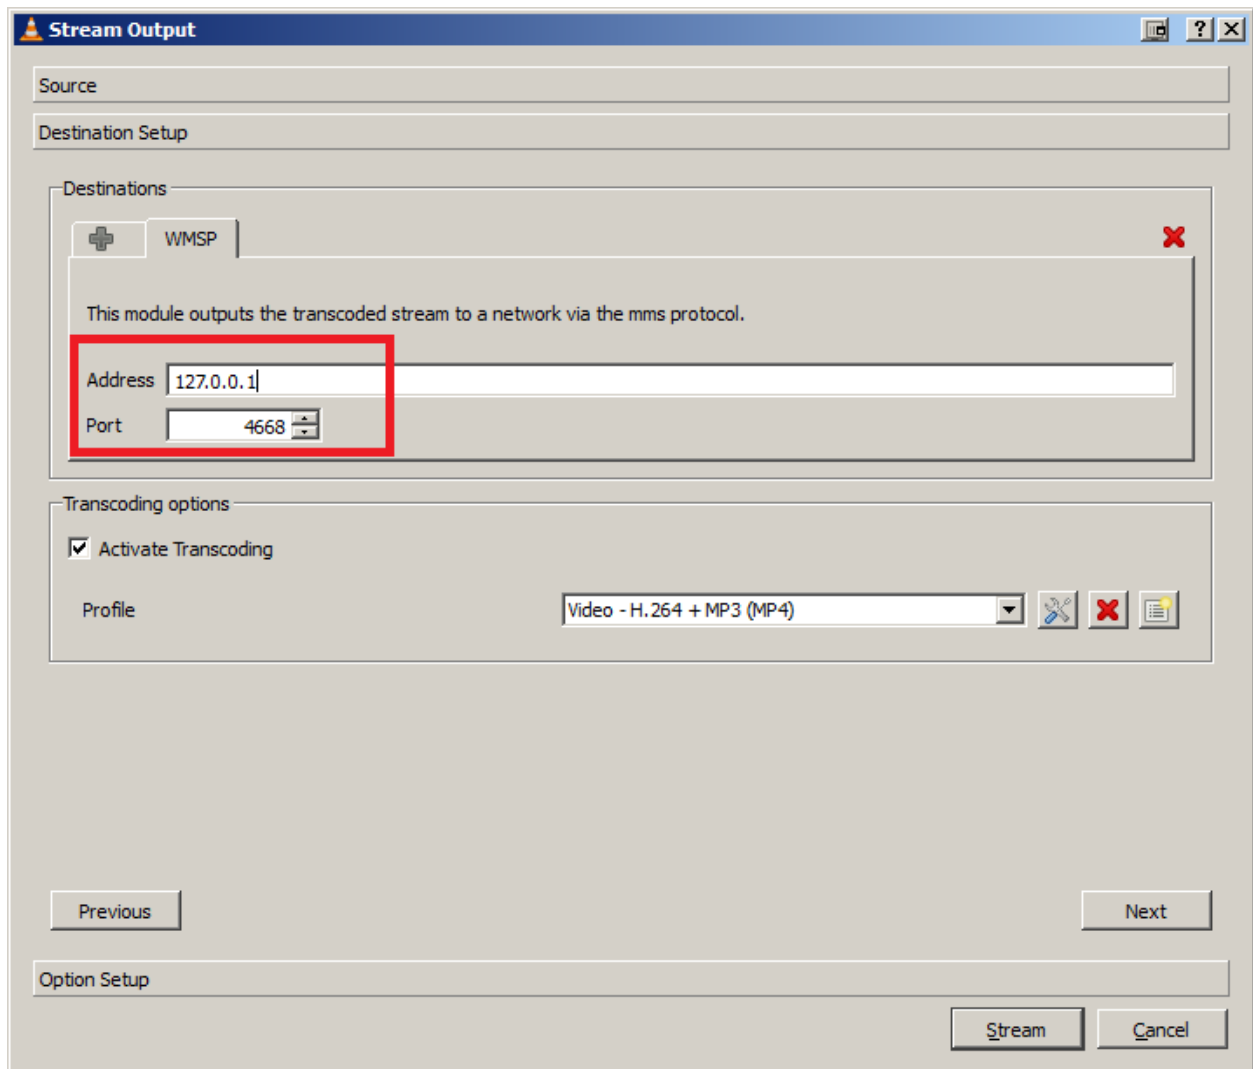

Figure 27
8. Enter CoroBot's public IP address in the "Address" input box. Enter 4668 in the "Port" input box (Figure 27).